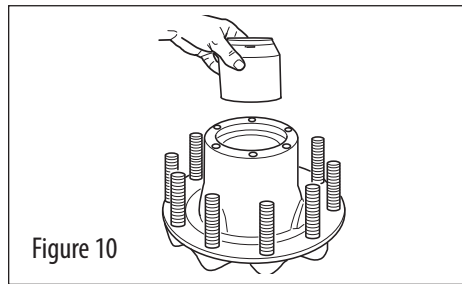

Figure 10
6. Turn the hub over, and place it seal-end down. Place the bearing spacer in the hub cavity ensuring that the small end, if present, faces the outboard end of the hub (see Figure 10).